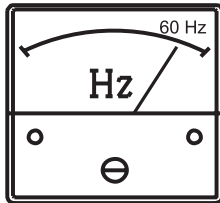

Figure 32. Frequency Meter
8. The generator's frequency meter (Figure 32) should be displaying the 60 cycle output frequency in **HERTZ**.